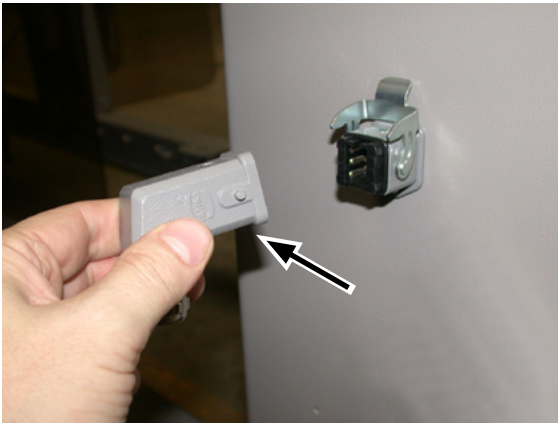

Figure 3-7: Use the feedback plug to run the unit independent of other units in the line.
- To run one unit independently of the other units of the line, disconnect its interconnect cable and install the feedback plug which shipped with the unit (Figure 3-7).